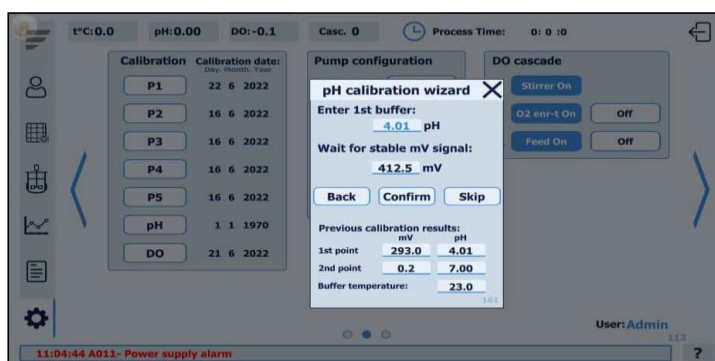

Figure 11.5. pH calibration wizard for calibration of the first buffer solution
- 7) In the next window, it is required to enter the first buffer solution pH value (see Figure 11.5);